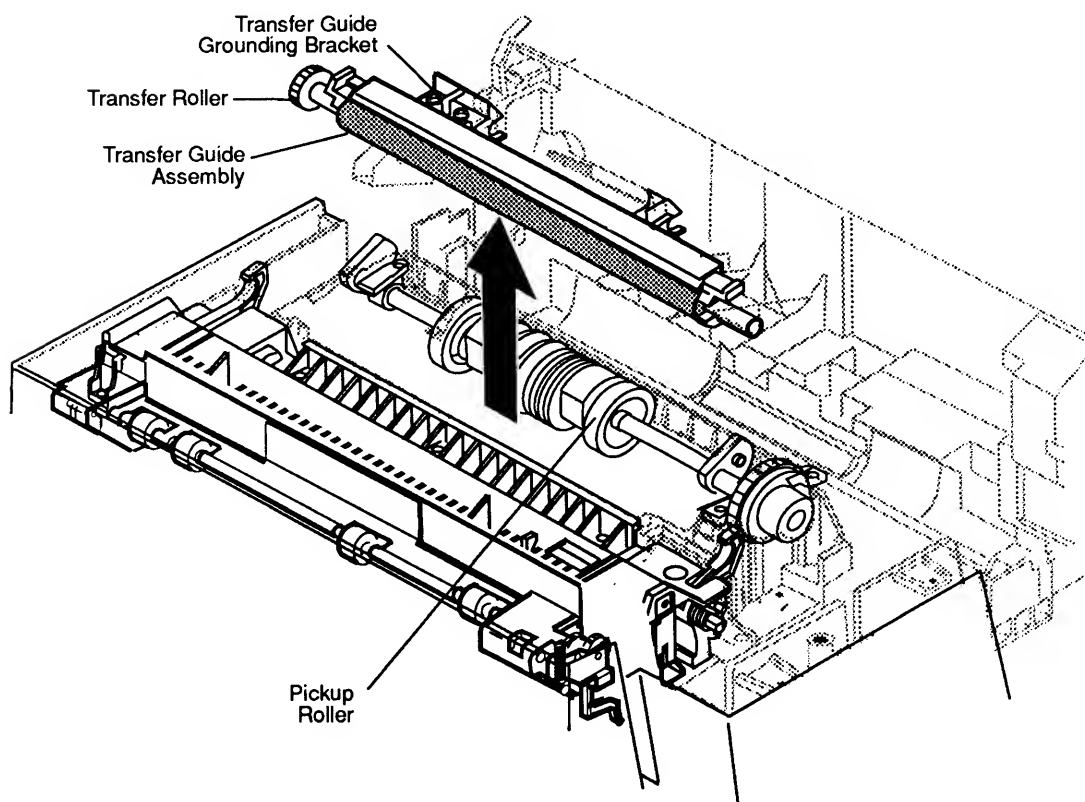

Figure 2-48 Transfer Guide Assembly
2. Carefully grasp each end of the transfer guide assembly and lift it out of the printer (**Figure 2-48**).